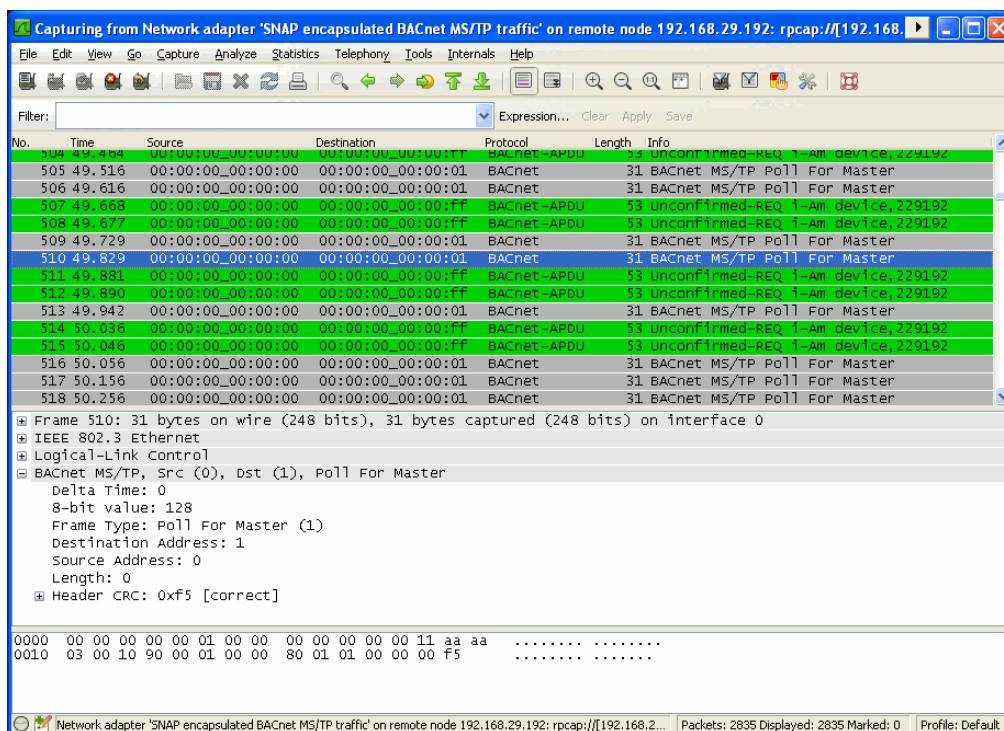

Figure 323: Example MS/TP remote capture in progress.
3. Wireshark will attempt to establish a connection to the device and, if successful, start displaying packets. An example capture is shown in Figure 323.